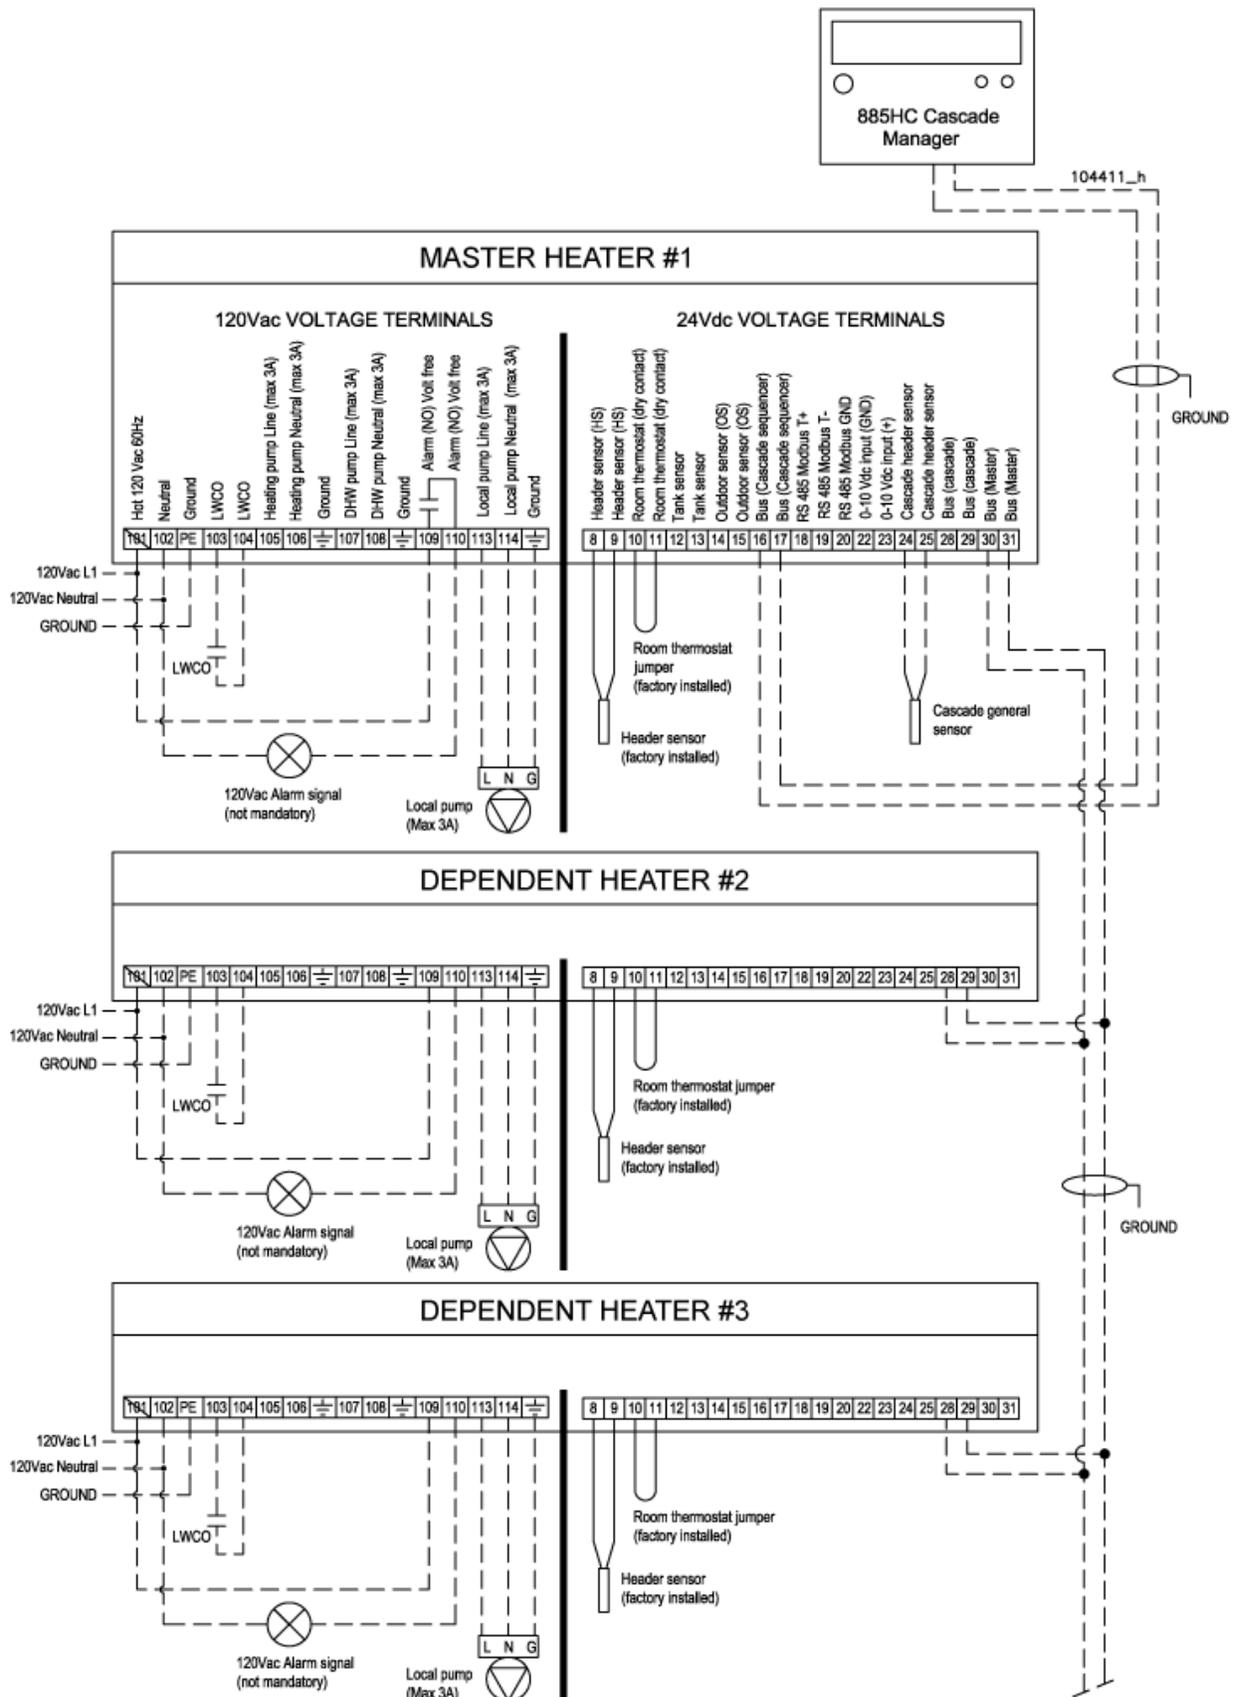

Figure 1-3b: Cascade Sequencing System Electrical Wiring (Units with Terminals 30 and 31)
- b) If terminals 30 and 31 **ARE** present in the electrical junction box, refer to **Figure 1-3b**.